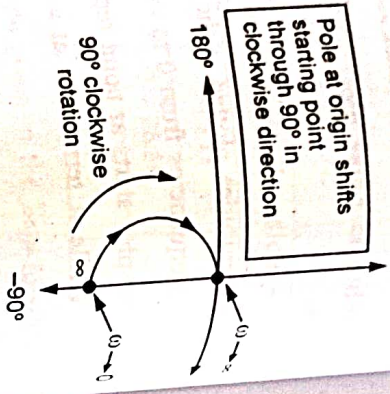

Fig. Q.19.2
- So the polar plot is starting from  $\infty \angle -90^\circ$  it ends at  $0 \angle -180^\circ$  with  $90^\circ$  clockwise rotation as shown in the Fig. Q.19.2.